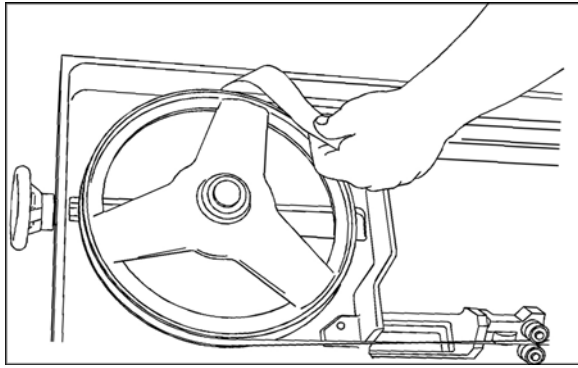

Figure 19: Checking blade tracking
9. As you adjust the blade toward the flange, insert a strip of paper between the blade and wheel as shown in *Figure 19*.